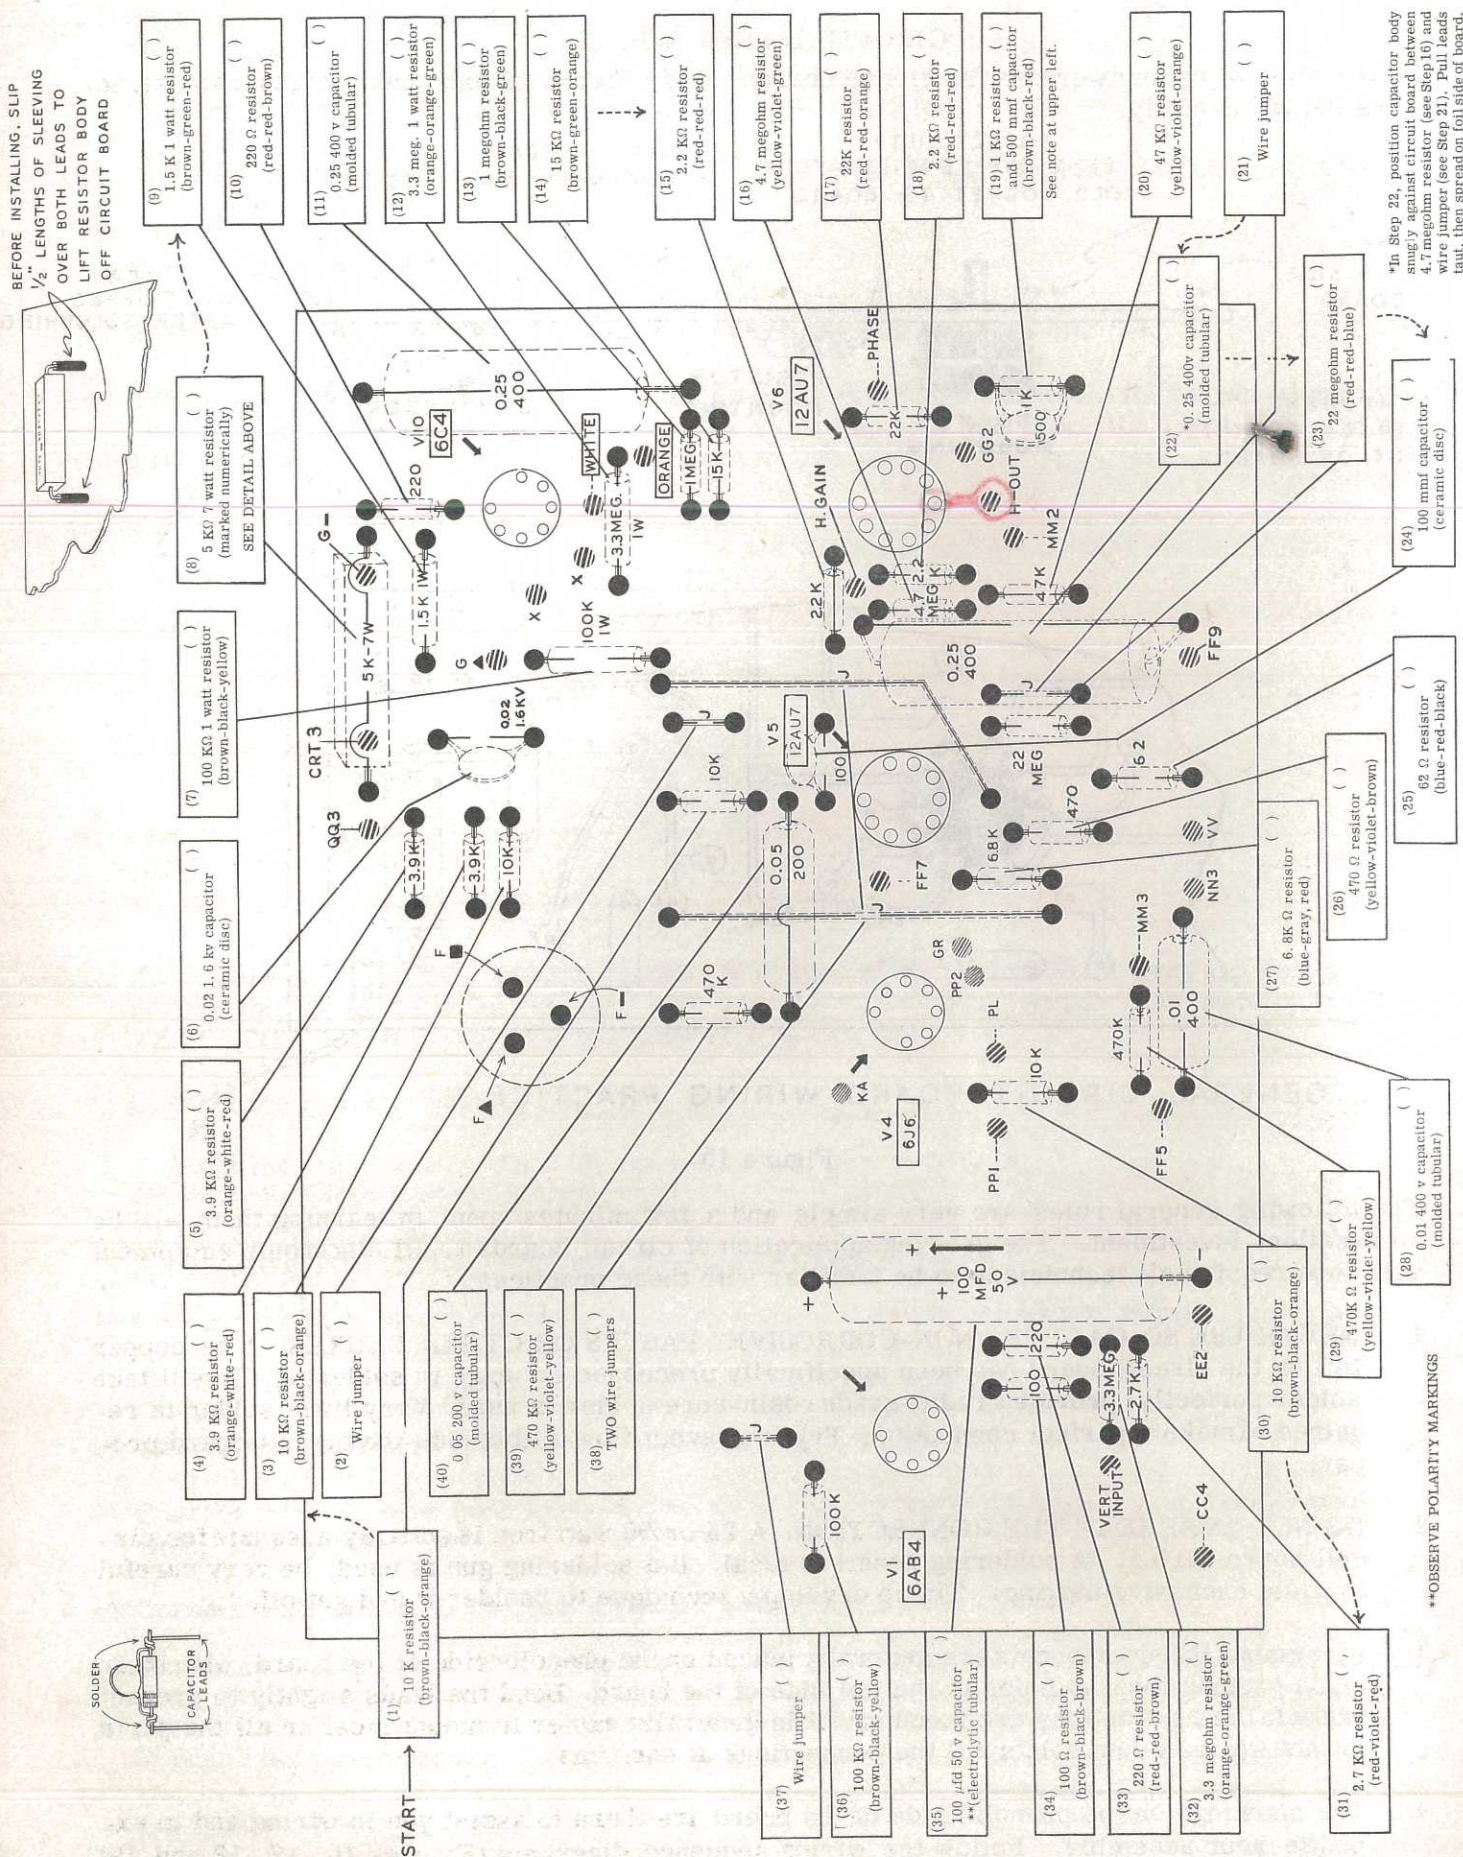

Figure 16
4. The markings on the phenolic side of the board are there to assist you in wiring and to expedite your assembly. Follow the wiring sequence diagrams (Figures 16, 17, 18 and 19) so that no parts or jumpers are omitted.
Figure 16 is the wiring sequence diagram for the front circuit board. Start with Step 1, in the upper left corner and follow the numbered operations around the board in clockwise order. Observe the special instructions for mounting the 5 KΩ 7 watt resistor in Step 8. This part is mounted above the circuit board to provide for better heat dissipation. DO NOT CONFUSE 1/2 WATT AND 1 WATT RESISTORS. Be sure to use the part called out. In most cases, the lead holes are spaced precisely to accept the leads of the component when they are bent sharply down as near the component body as possible. IF THE PART DOES NOT SEEM TO MATCH THE HOLES, RECHECK YOUR WORK. It is very possible that the part is not the proper one. Slip both leads through the holes, spread them slightly to prevent the part falling out, but DO NOT CUT OFF EXCESS LEAD LENGTHS AT THIS TIME.
AFTER the operations outlined in Figure 16 have been completed: *oh*